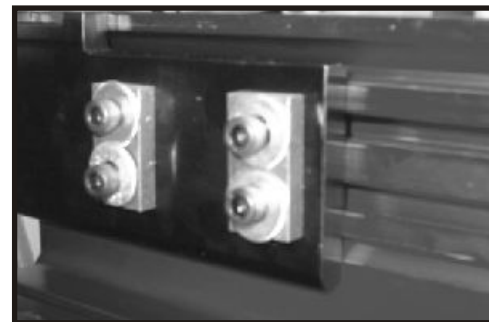

FIG. 16
13. Now adjust the shaft so that it is level from end to end. First make sure the cap screws on the large and small clamping brackets on the back of the fence are loose enough to allow some movement (Fig. 16 shows large bracket). Now slide the miter gauge on the shaft to it's most forward position and snug up the two cap screws on the small fence clamping bracket. Then slide the miter gauge back to it's most rearward position and snug up the four cap screws on the large fence clamping bracket (Fig. 16). Check the slide for a smooth action. If not smooth slightly loosen all cap screws to release any possible torque in the shaft. Re-tighten cap screws and check for a smooth sliding action. If necessary re-check the shaft for parallel and repeat steps 11 thru 13.